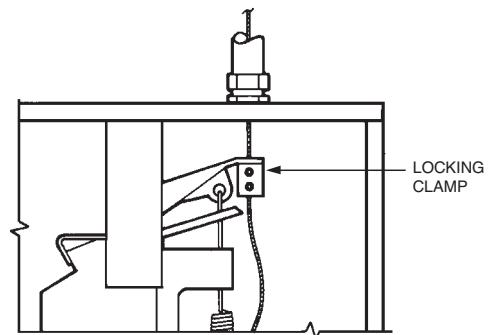

FIGURE 17
3. Starting at the regulated release assembly, feed the wire rope through the hole in the regulated release mechanism locking clamp, allowing the excess wire rope to hang down. (Do not tighten set screws in locking clamp at this time.) See Figure 17.